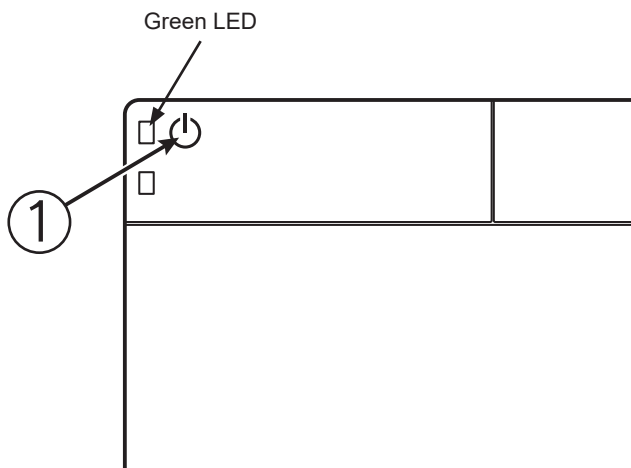

Figure 3: ON button with indicator LED
2. Press and hold the ON/OFF switch (1) for 3 seconds. Refer to Figure 3.
1. Press and hold the ON/OFF switch (1) for 3 seconds. Refer to Figure 3.